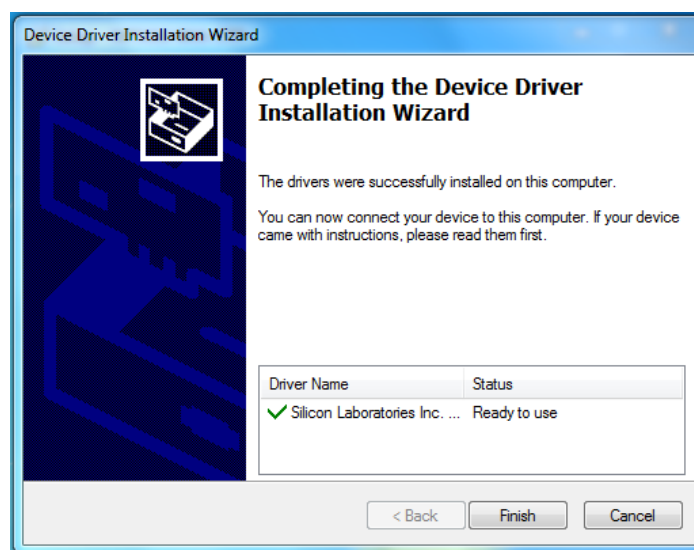

Figure 5: Driver Set-Up Success
5. Wait for status screen to verify that installation is complete (see Figure 5).